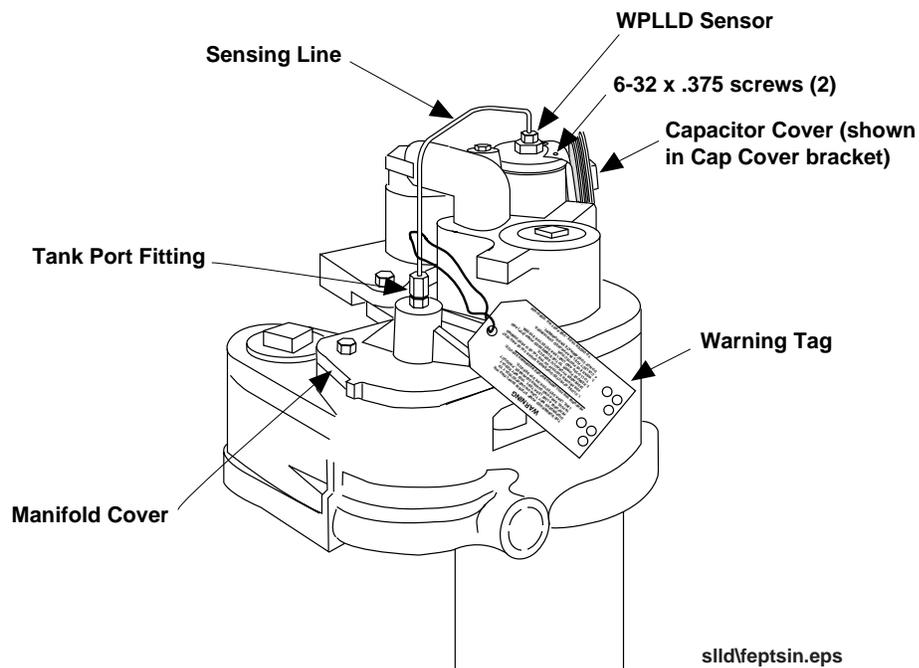

Figure 15. Completed WPLLD Sensor Installation - FE Petro Pump
8. Install one end of the sensing line from the installation kit to the port on top of the WPLLD sensor and the other end to the tank port fitting [Figure 15].